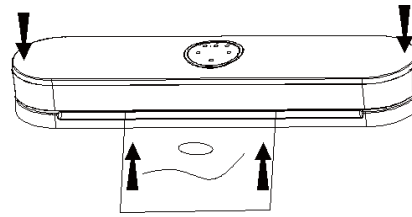

Figure 2
- 4.Close the upper cover and press both ends of the upper cover with the palm of your hand, and hear a crisp lock sound, as shown in Figure 2;